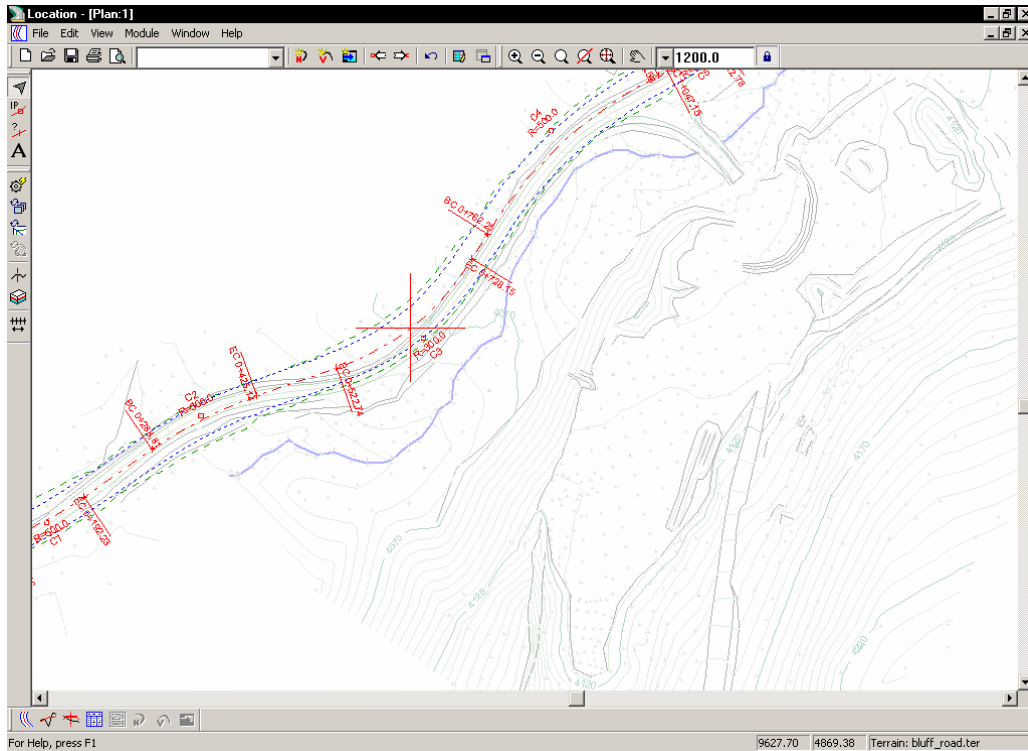

Figure 2.7: Zoomed Plan View With Scale Locked
14. Now zoom in near the X shown in Figure 2.7 design (use the *Zoom Rectangle* button  or the mouse roller with the cursor over the corner). You may also need to pan if you didn't zoom accurately.
15. Pick the *Select Tool* button  from the Mode Tools toolbar and click on the point shown in the Figure 2.7.